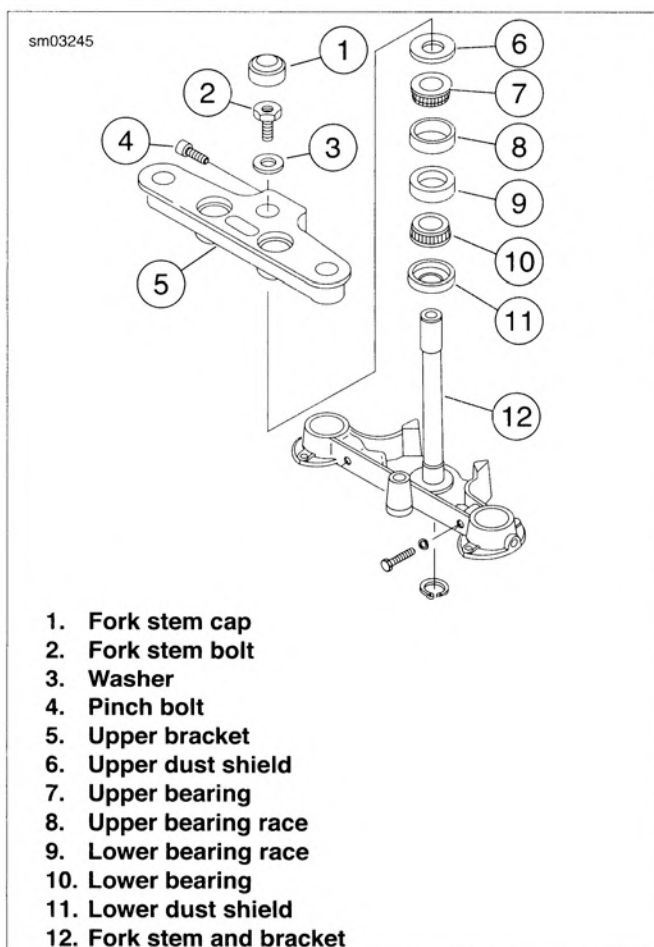

Figure 2-78. Steering Head: FLST, FLSTC, FLSTF/B, FLSTN
4. See Figure 2-78. Remove the brake hose bracket from the bottom of the fork stem and bracket (12).
5. Remove the fork stem cap (1). Loosen pinch bolt (4) and remove fork stem bolt (2). Remove washer (3) with the handlebar and upper bracket (5) assembly.
6. Remove the fork stem and bracket (12) from the steering head. Remove the upper dust shield (6).
7. Remove upper bearing (7).